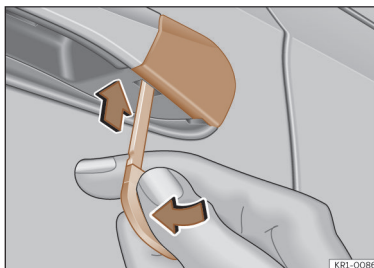

Fig. 74 Driver's door handle: remove the cover.
- Insert the key shaft into the lower opening in the cover on the driver door handle then lever in the direction of the arrow >>> **Fig. 74**.